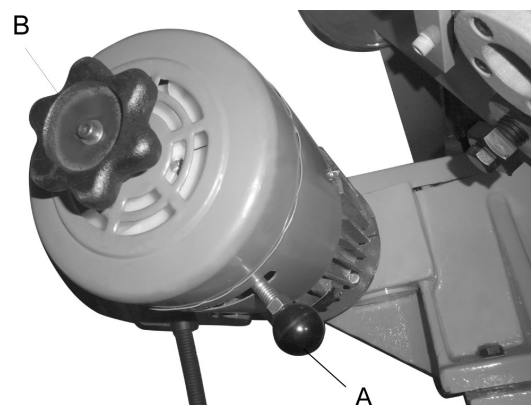

Fig. 6
For inching feed, please disengage the clutch (A) Fig. 6 right under the feed motor , and push it to the left. Rotate the knob ( B ) to feed material to the desired cutting length, and engage the clutch again.